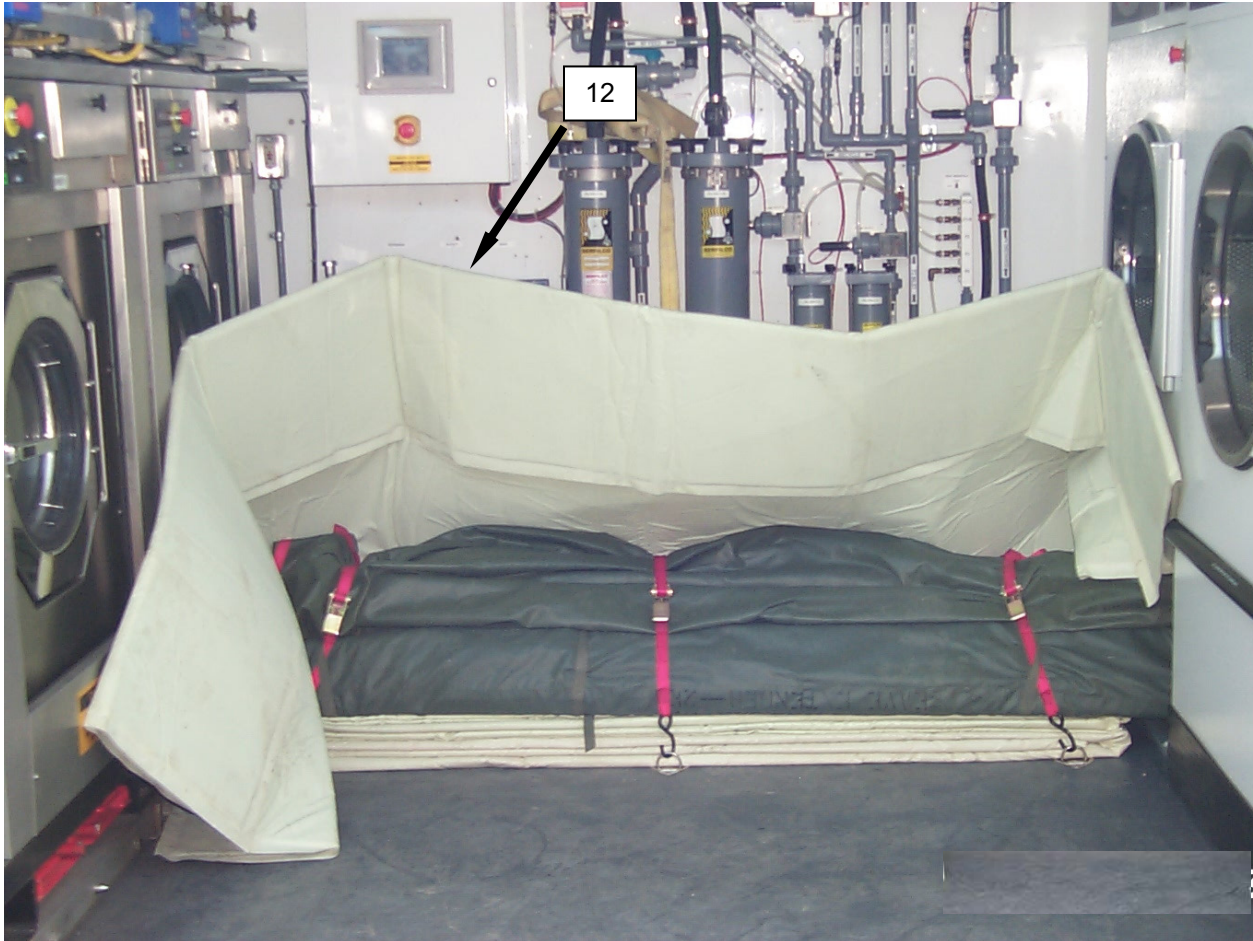

Figure 10. Placing the Vestibule Floor Linings.
15. Place the vestibule floor linings (**Figure 10, Item 12**) as shown to provide protection to the washers and dryers.